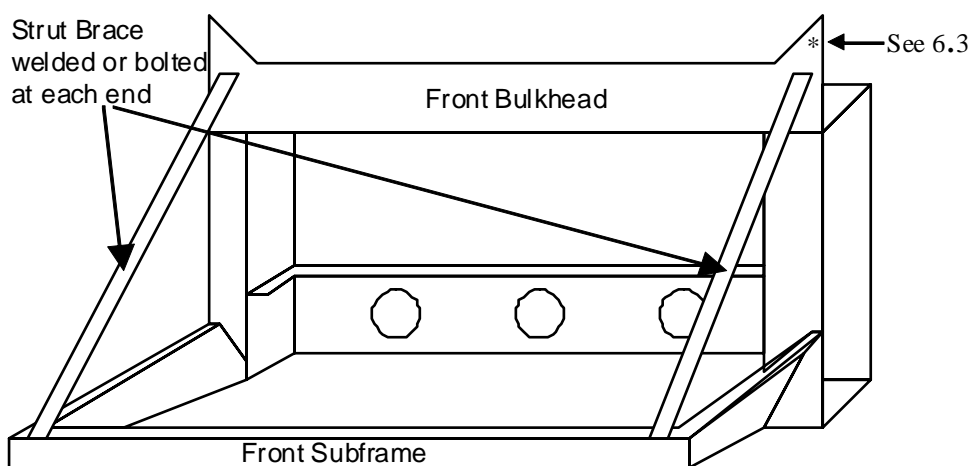

Fig. 2.3
2.3. A detachable one piece front (front panel, wings etc.) of fibreglass or metal may be used provided it is securely attached to the body and subframe. A panel of maximum thickness 2.0mm (14swg) may be fitted to the rear of the front valance no wider than the width of the front subframe to support the detachable front. Fixings at the front of the subframe to be by two individual pins which may not protrude forward from the bodywork. Brackets to be made from sheet material 2.0mm thickness and to form a box section. Such fronts must retain the appearance of the original body. Inner wings may be removed subject to fitting of strut braces as detailed (Fig 2.3)
6.4 The triangulation panel adjacent to the left hand front subframe top mounting MUST be drilled on the angled flange with a 2mm dia hole. Refer to figure 2.3. An MSA numbered seal will be fitted, and the number recorded in the vehicle log book.